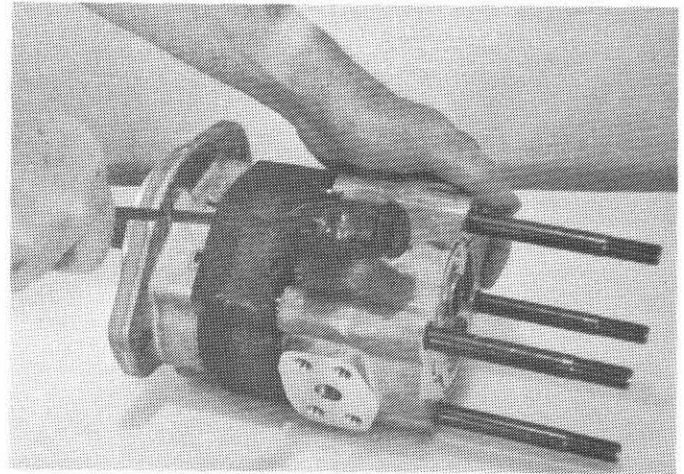

FIG. 12
14. While holding bearing plate (3), tap around the exposed edges of the gear plate. After the bearing plate loosens, remove it. (Fig. 12)